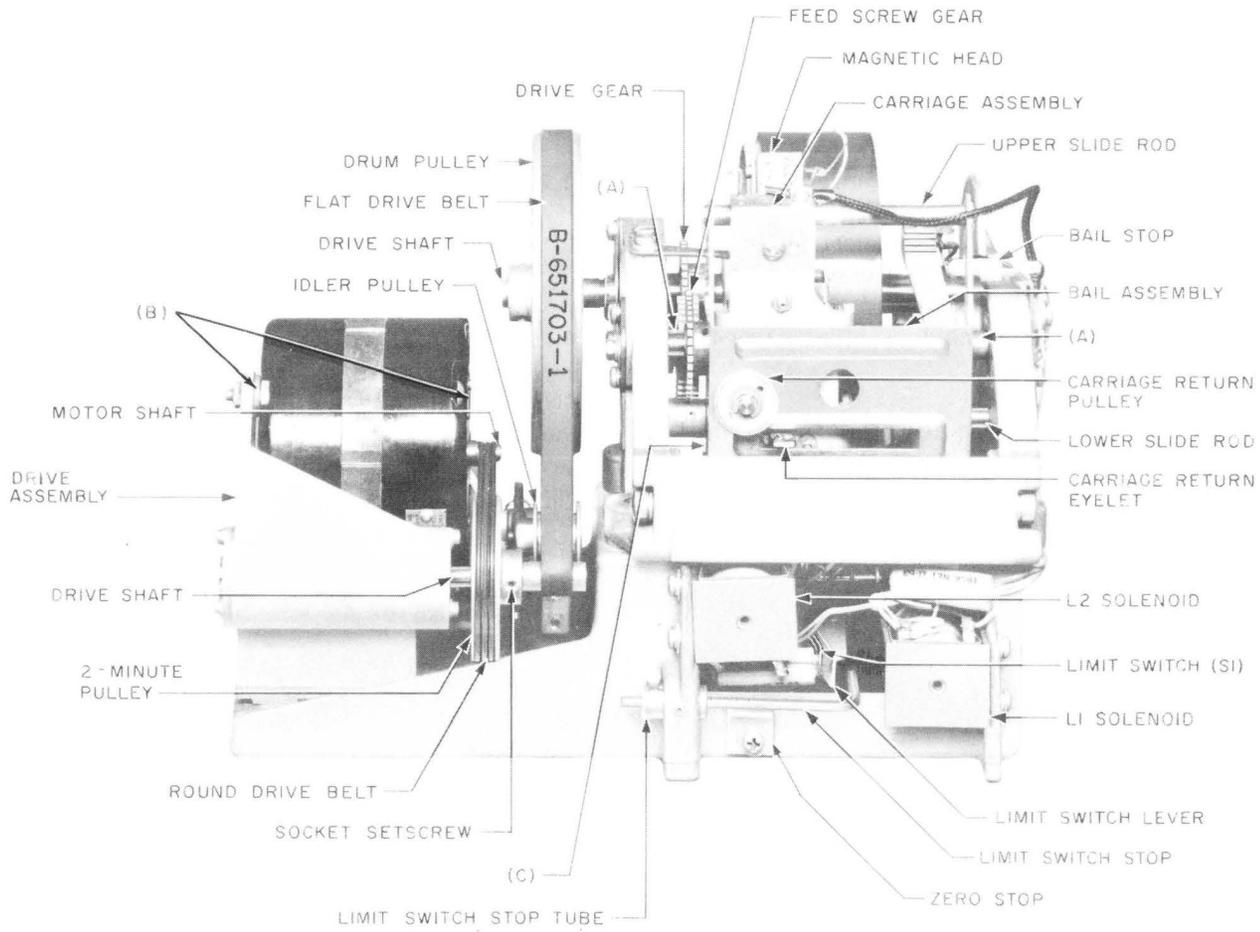

Fig. 1—KS-16765, L3 Recorder—Front View (Later Type Shown)
1.20 KS-16765, L3, recorder equipped with the drive assembly, shown in Fig. 1, may be converted from a 2-minute maximum announcement recording capacity to a 3-minute maximum recording capacity by replacing the 2-minute pulley with a 3-minute pulley as covered in paragraph 5.03.